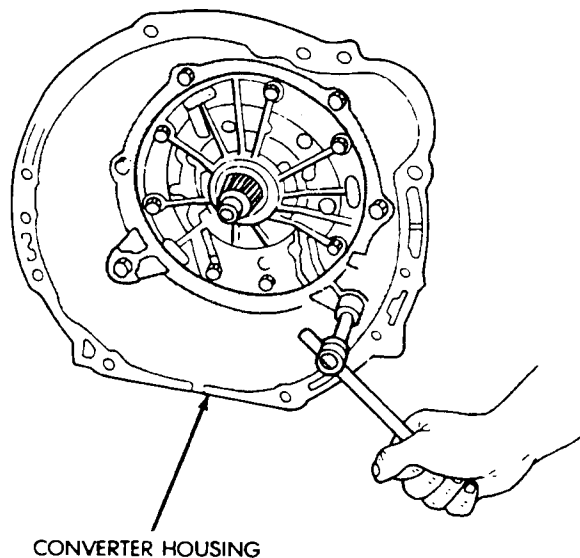

Fig. 3 Removing/Installing Converter Housing
- (7) Remove converter housing bolts and remove housing (Fig. 3) from case.
- (8) Remove extension housing or adapter housing.
- (9) On 2WD models, measure inside diameter of extension housing bushing with cylinder bore gauge or inside micrometer. Diameter should be 38.09 mm